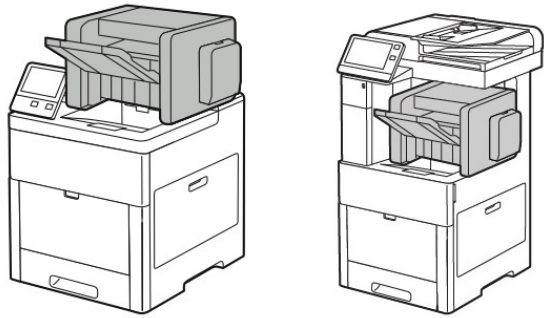

Figure 7 Finisher (C600 C500/C600 and C605_Tall)
- Figure 7, Table 11, Finisher (C600 and C605_Tall)